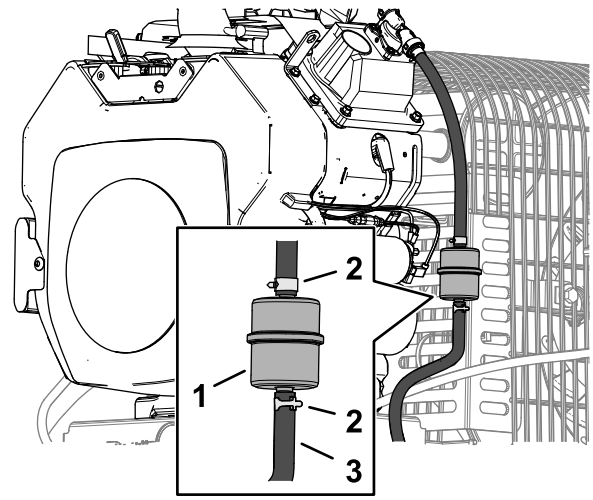

Figure 40
3. Squeeze the ends of the hose clamps together and slide them away from the filter (Figure 40).
5. Install a new filter and move the hose clamps close to the filter (Figure 40).
3. Loosen the hose clamp at the fuel filter and slide it up the fuel line away from the fuel filter (Figure 40).
4. Disconnect the fuel line from the fuel filter (Figure 40).
**Note:** Allow fuel to drain into a fuel container can or drain pan (Figure 40).
5. Install the fuel line onto the fuel filter. Slide the hose clamp close to the fuel filter to secure the fuel line (Figure 40).